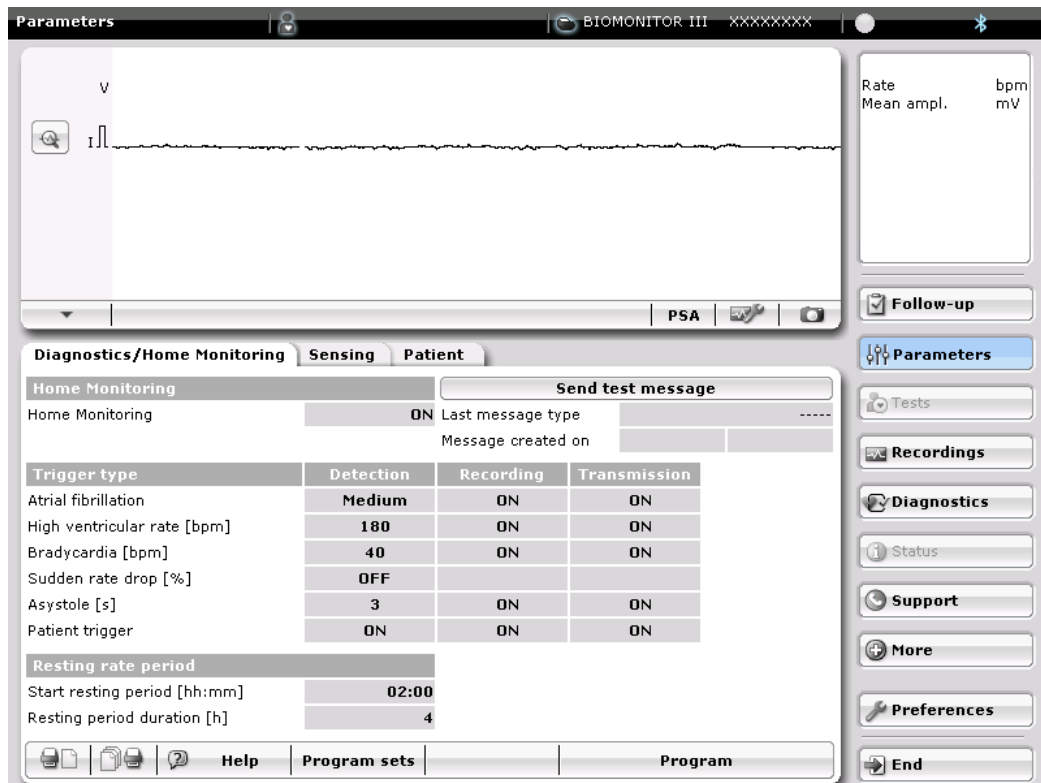

Figure 1: Main parameter screen
The Diagnostics/Home Monitoring page under Parameters, shown in Figure 1, allows set-up of the recording criteria of the device to include atrial fibrillation (AF), high ventricular rate (HVR), bradycardia, sudden rate drop, asystole, and patient triggered events. With the BIOMONITOR III, there are preconfigured programming sets that can be selected under program sets to automatically manage these recording parameters based on patient indication through the ProgramConsult. This feature, as well as the other programming options for the recording criteria will be discussed in detail below.